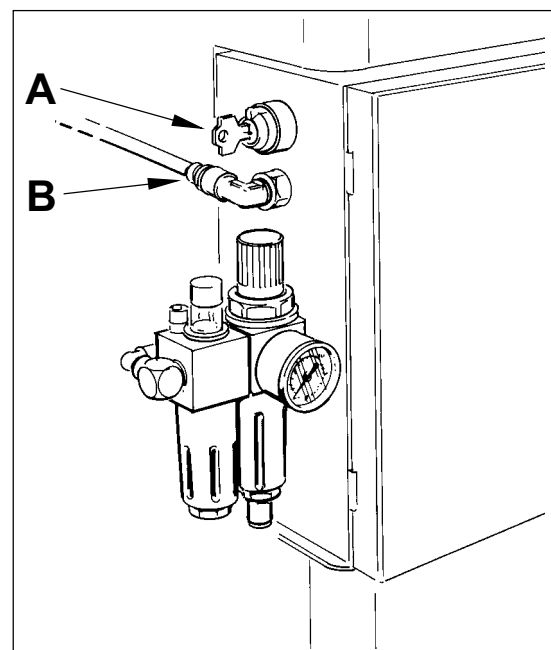

Fig. 3-4 Pneumatic connection
- In the same way it is necessary to adjust the feet of the side supporting tables Fig. 3-4 (see 4.2 ASSEMBLING AND DISASSEMBLING SIDE ROLLER BENCHES)
- It is necessary to prepare a pipe with outer diameter 8mm coming from the compressed air network to be coupled to the union **B** at the inlet of the filter-lubricator unit fixed onto the machine as per figure 3-4.